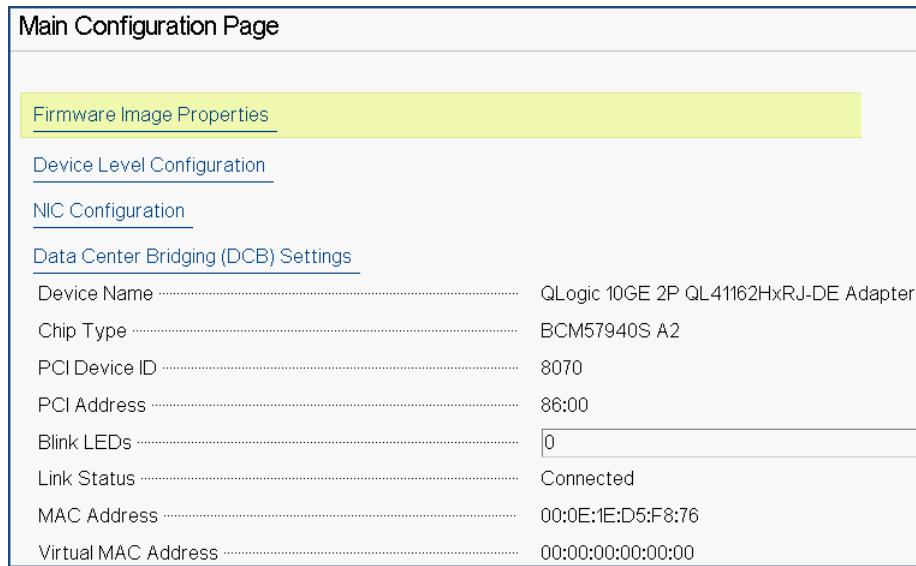
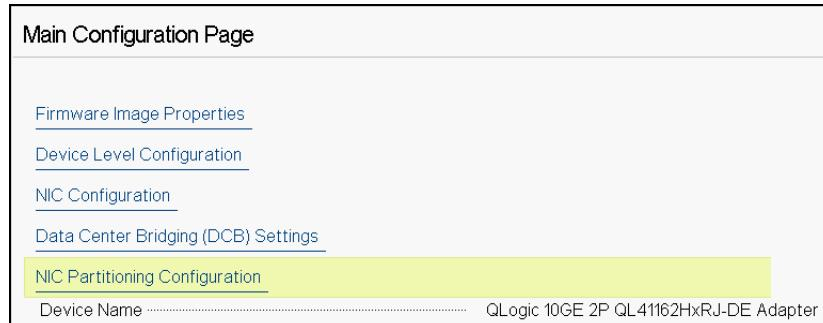

Figure 5-3. Main Configuration Page
Figure 5-4. Main Configuration Page, Setting Partitioning Mode to NPAR
4. The Main Configuration Page (Figure 5-3) presents the adapter management options where you can set the partitioning mode.
- ❑ Under **Device Level Configuration**, set the **Partitioning Mode** to **NPAR** to add the **NIC Partitioning Configuration** option to the Main Configuration Page, as shown in Figure 5-4.
In Figure 5-3 and Figure 5-4, the Main Configuration Page shows the following:
1. On the Main Configuration Page, select **Device Level Configuration** (see Figure 5-3 on page 40), and then press ENTER.
1. On the Main Configuration Page, select **NIC Configuration** (Figure 5-3 on page 40), and then click **Finish**.